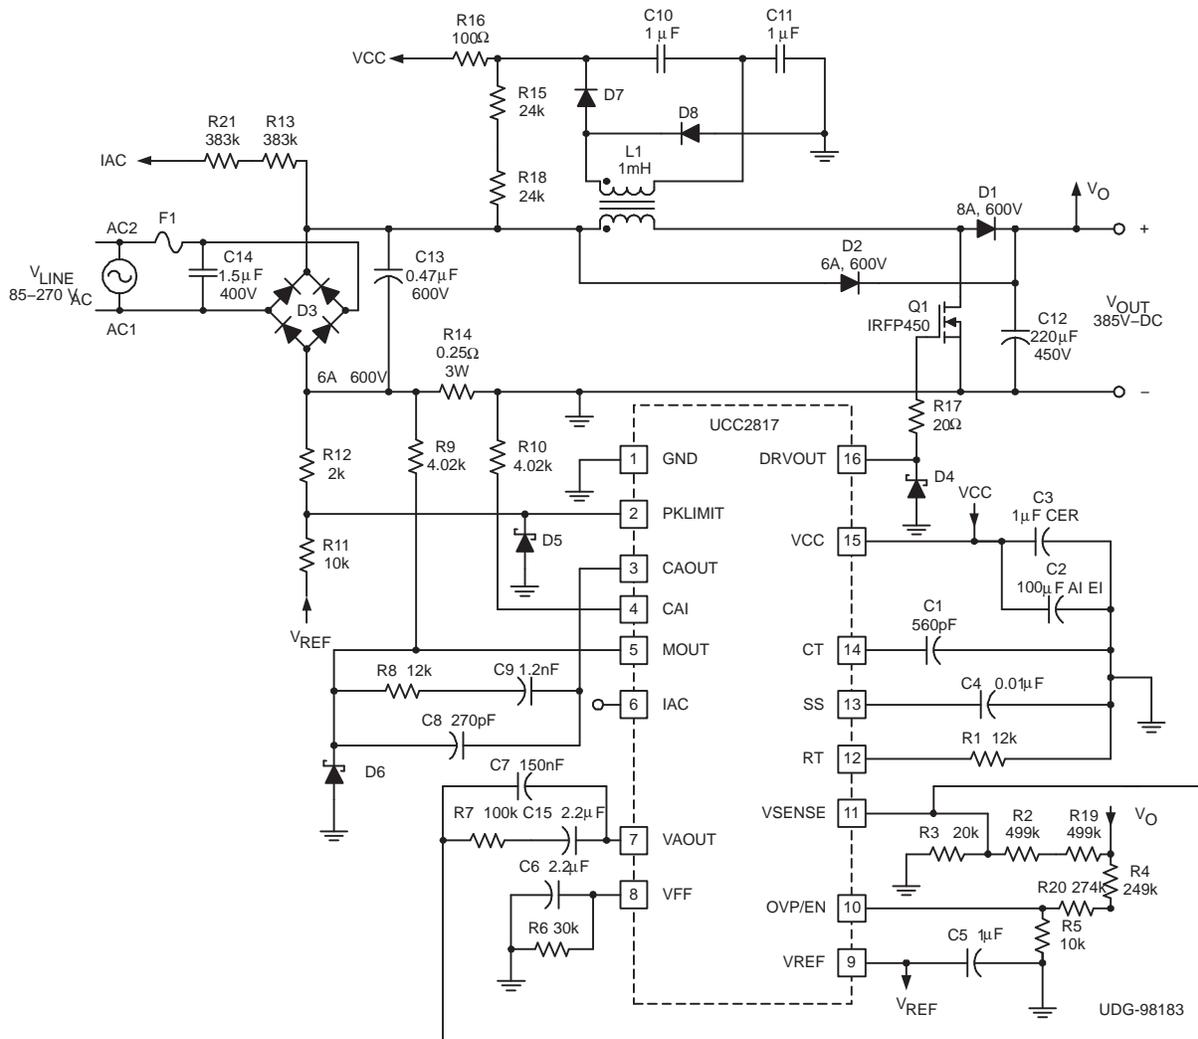

Figure 1. Typical Application Circuit
The UCC2817 is a BiCMOS average current mode boost controller for high-power-factor, high-efficiency, preregulator power supplies. Figure 1 shows the UCC2817 in a 250-W PFC preregulator circuit. Off-line switching power converters normally have an input current that is not sinusoidal. The input current waveform has a high harmonic content because current is drawn in pulses at the peaks of the input voltage waveform. An active power-factor correction circuit programs the input current to follow the line voltage, forcing the converter to look like a resistive load to the line. A resistive load has 0° phase displacement between the current and voltage waveforms. Power factor (PF) can be defined in terms of the phase angle between two sinusoidal waveforms of the same frequency:
The UCC2818 version of the device is intended to have VCC connected to a 12-V supply voltage. The UCC2817 has an internal shunt regulator enabling the device to be powered from bootstrap circuitry, as shown in the typical application circuit of Figure 1. The current drawn by the UCC2817 during undervoltage lockout, or start-up current, is typically 150 μA. Once VCC is above the UVLO threshold, the device is enabled and draws 4 mA typically. A resistor connected between the rectified ac line voltage and the VCC pin provides current to the shunt regulator during power up. Once the circuit is operational, the bootstrap winding of the inductor provides the VCC voltage. Sizing of the start-up resistor is determined by the start-up time requirement of the system design.